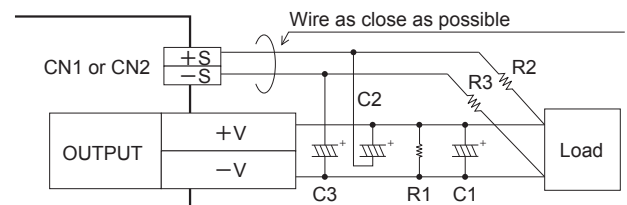

Fig. 1.4 When using remote sensing function
■Please see Fig. 1.4 if you use the remote sensing function.